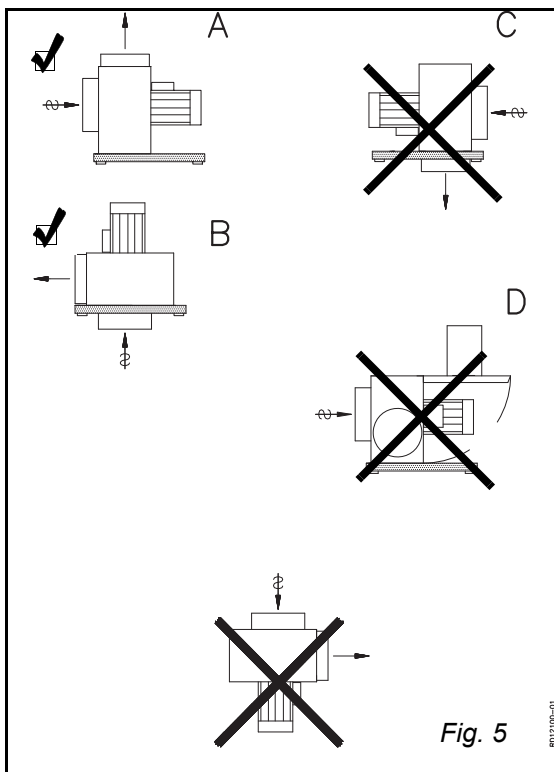

Fig. 5
**Fitting methods A and B should be used for outdoor fitting. Fitting methods C and D require a specially designed ventilator (Fig. 5) — contact EXHAUSTO.**